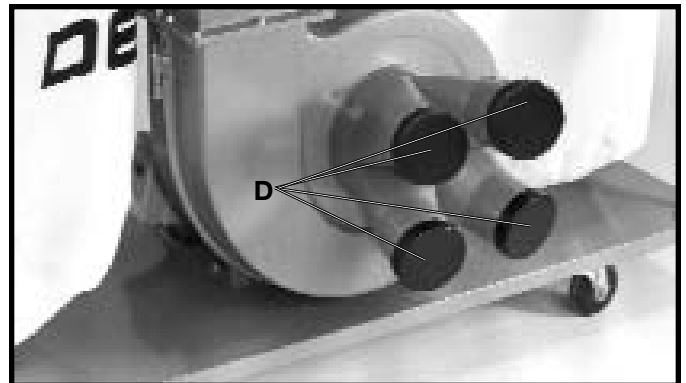

Fig. 31
3. Four dust intake port caps (D) Fig. 31, are supplied with the dust collector. These caps should be installed to cover any unused intake ports or when the dust collector is not in use.